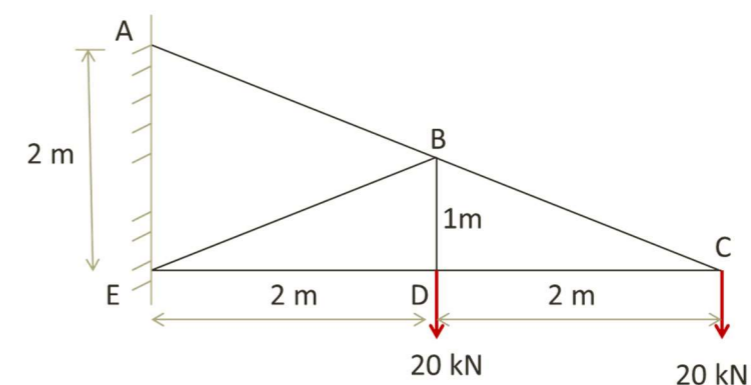

Figure 1
- (b) Find the vertical deflection of the joint C of the truss shown in the following figure 1. Cross sectional area of each member is 8 cm^2 . $E = 2 \times 10^5 \text{ MPa}$. (14) 1 3